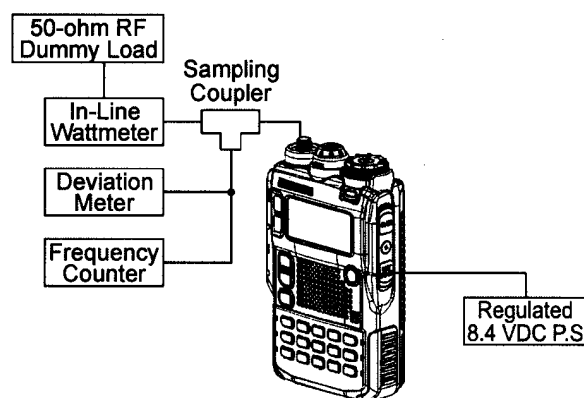

Figure 1: TX Alignment Setup
- ☐ Connect the test equipment as shown in Figure 1: TX Alignment Setup.